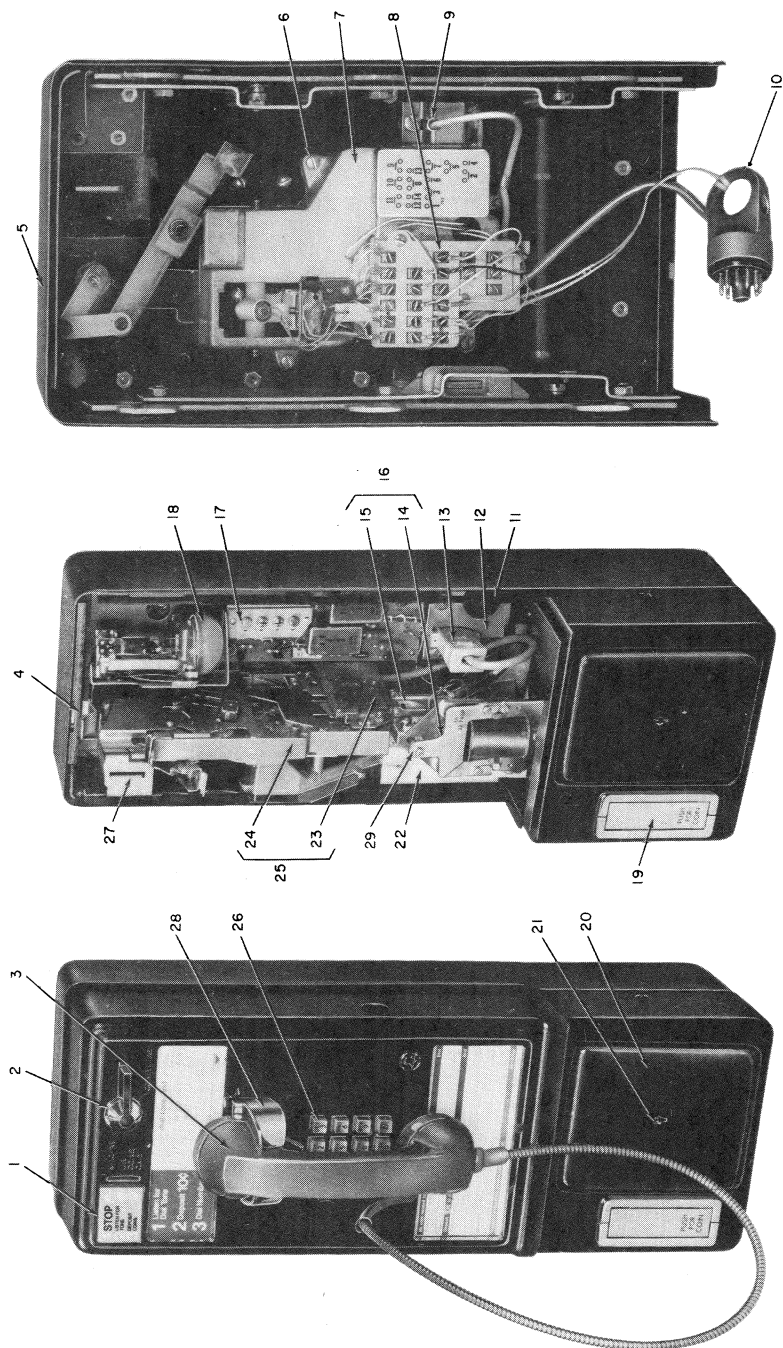

Fig. 1—1D-Type Coin Telephone Set
1.01 This section contains information on the 1D/2D-type coin telephone sets (Fig. 1, 2, and 3) and the D-180707 Kit of Parts (Fig. 4).
- The D-180707 Kit of Parts contains a 47A (MD) or 47A2 signal and a 32A chassis
- 23 — 47A (MD) or 47A2 Signal
- 25 — 20A47A (MD) or 20A47A2 Chute
- 29 — 811057835 Cover (not shown in Fig. 1)
2.02 *Components:* See Table B and Fig. 1 and 2.